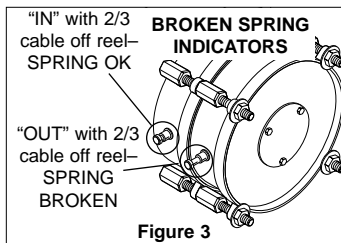

Figure 3
C. Check for broken springs by pulling about 2/3 cable off reel and observing "Broken Spring Indicators" on sides of spring canisters. See Fig. 3. **NOTE:** Bearings and springs are prelubricated and require no periodic maintenance.